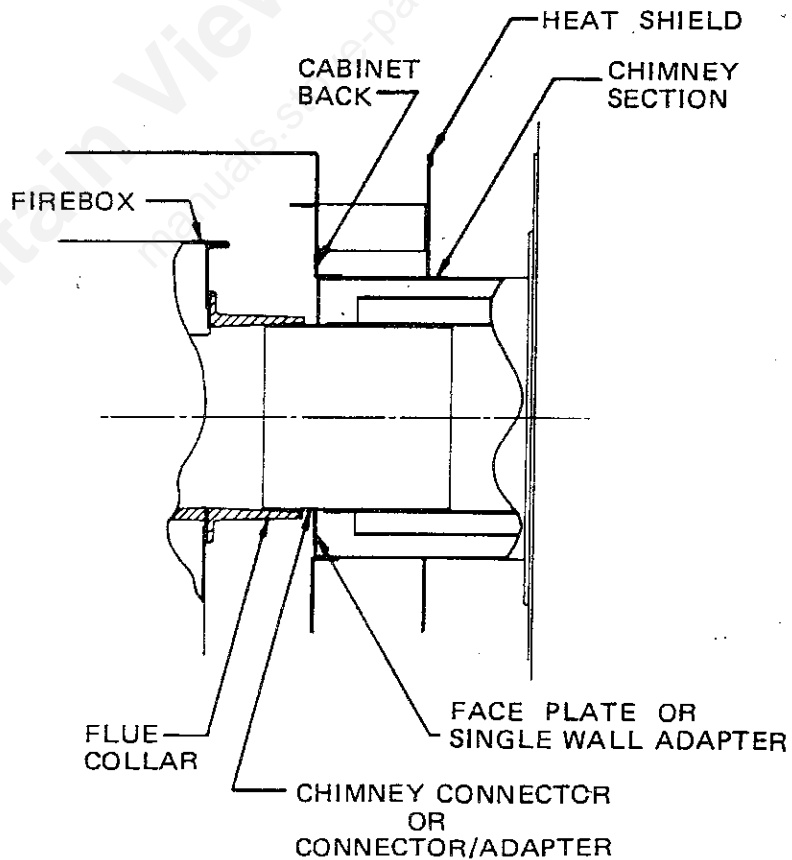
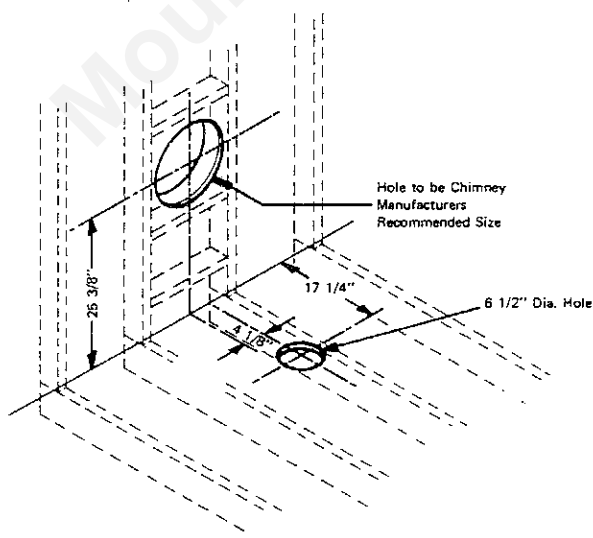
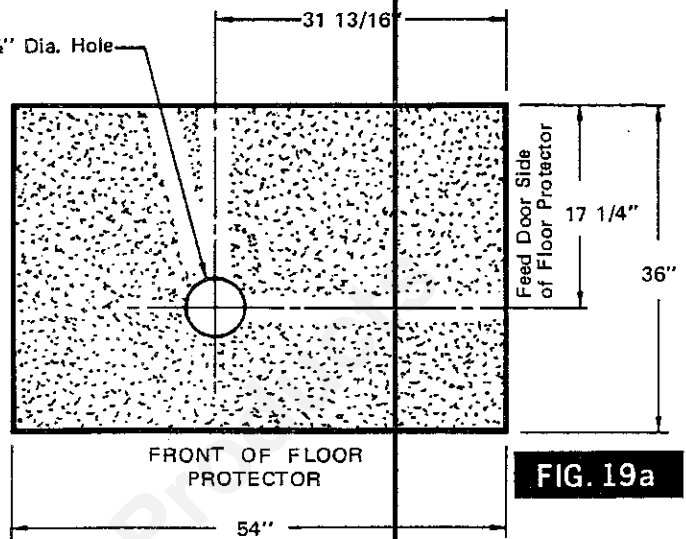
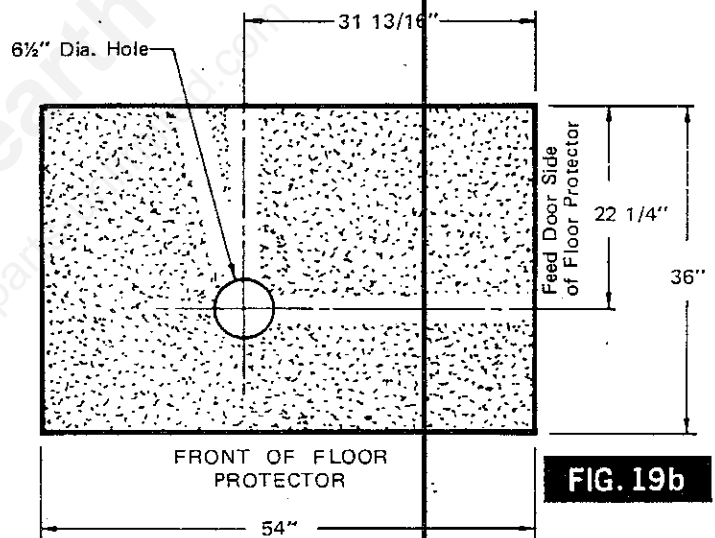

FIG. 12
FIG. 19
FIG. 19a
FIG. 19b
3. After selecting a chimney and the area in which the stove will be located, install the chimney per the manufacturers' instruction. It is recommended that the opening in the wall for the chimney be located between two studs. To provide support for the tee support outside the mobile home, (3), 1" x 3" boards may be placed between the wall studs where the heater is located as shown in Fig. 19, page 14. The chimney must extend through the wall and end at the cabinet back of the heater. See Fig. 12.
4. Assemble the heater chimney connector and chimney as it will be when the heater installation is completed. Take careful measurements of the distance between the cabinet back of the heater and the back wall. If this dimension is greater than 7" it will be necessary to add the difference to the 17-1/4" dimension in Fig. 19 in order to properly locate the center of the inlet combustion hole.
5. Locate the inlet combustion air opening in the floor of the mobile home, then proceed with cutting the 6-1/2" dia. hole. See Fig. 19. Next take the floor protector for minimum clearance installation and cut a 6 1/2" dia. hole in it using Fig. 19a as a guide.
7. Position the floor protector over the hole in the floor so that the holes align with each other. (See Fig. 19A, 19B on Page 14).
2. If desired, combustion air can be brought in from outside the house by cutting a 6 1/2" diameter hole in the floor as shown in Fig. 19.
NOTE: To provide support for the tee support outside the mobile home, (3) 1" x 3" boards may be placed between the wall studs where the heater is located as shown in Fig. 19.
3. If installing the heater in a residence with the standard clearance, cut a hole in the floor protector as shown in Fig. 19A. If installing in a mobile home or in a residence with a minimum clearance, cut a hole in the floor protector as shown in Fig. 19B.